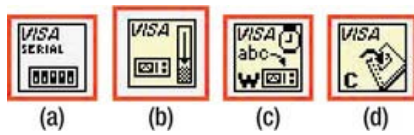

Figure 10-16. (a) The VISA Configure Serial Port Function, (b) the VISA Flush I/O Buffer Function, (c) the VISA Write Function, and (d) the VISA Close Function
- *Virtual Instrument Software Architecture (VISA) Configure Serial Port*—This function sets up the serial port's resource name, baud rate, parity, stop bits, flow control, and data bits (see Figure 10-16(a)).
- *VISA Flush I/O Buffer*—This function deletes the data that is stored on the buffer, allowing for more information to take its place (see Figure 10-16(b)).
- *VISA Write*—This function writes data to the serial port you specified in the VISA Configure Serial Port Function (see Figure 10-16(c)).
- *VISA Close*—This function closes out the serial communication session (see Figure 10-16(d)).